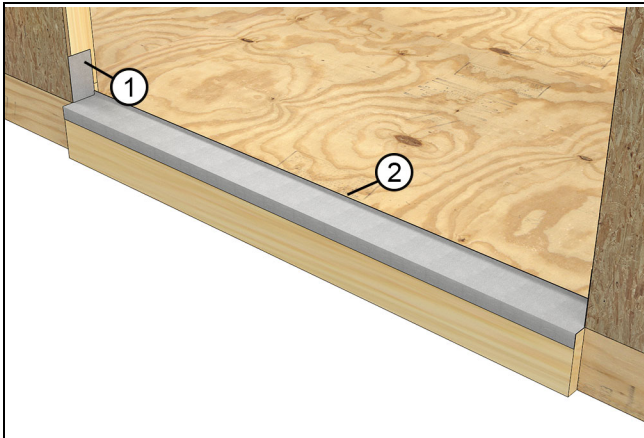
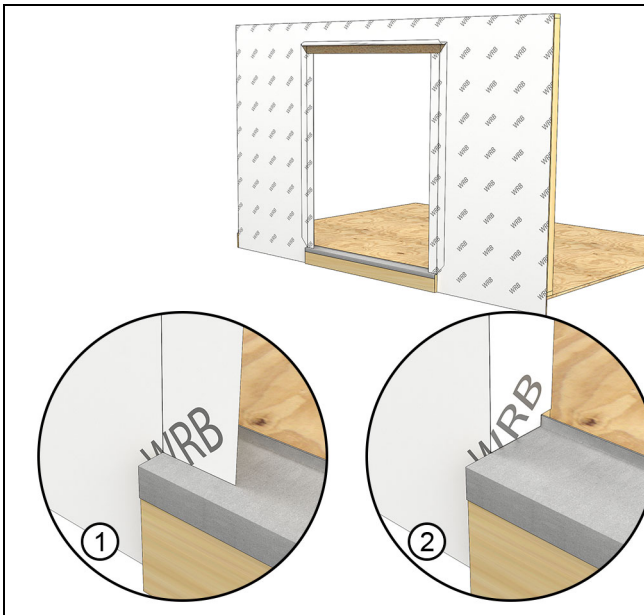

Figure 2
Figure 3
1. Before you begin the installation process make sure you have prepared your opening properly in weather-board fashion. The panning should extend up the sides of the rough opening at least 6" (152) and have an upturned leg on the interior of at least 1/2" (13) in height. Wrap the weather resistive barrier around to the interior and seal any seams. See Figure 2 and Figure 3.